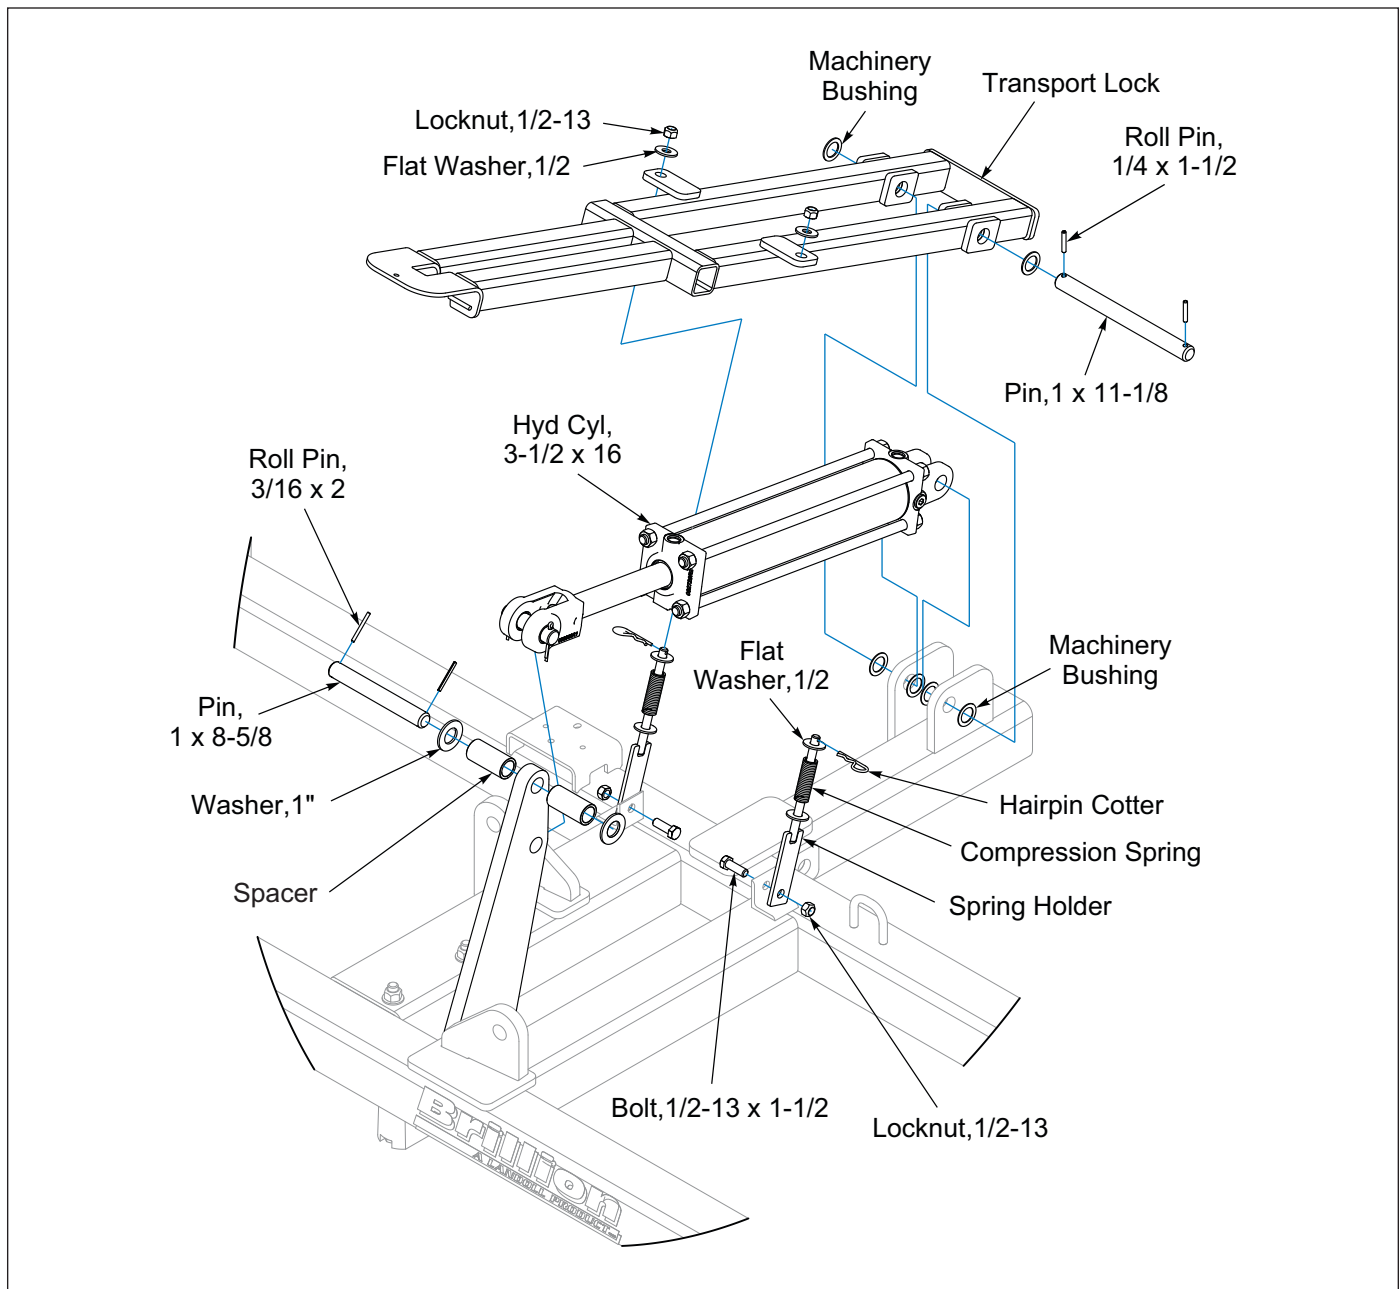

Figure 2-3: Transport Lock
1. Attach the Spring Holders to the frame angles with 1/2-13 x 1-1/2, Bolts and Locknuts. Place a 1/2" Washer, Compression Spring, another 1/2" Washer onto the Spring Holder. **See Figure 2-3.**